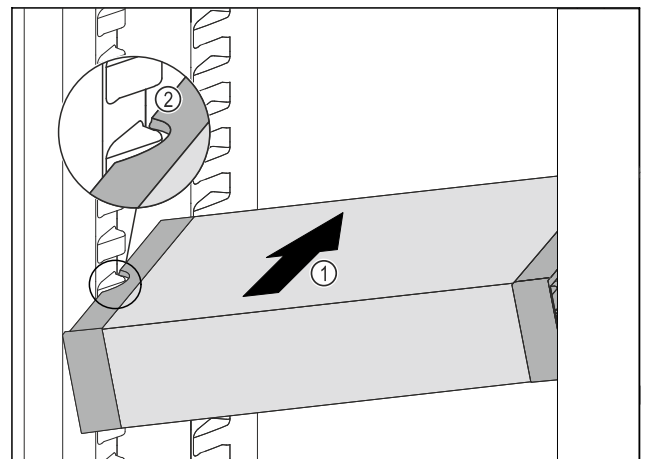

Fig. 167
- Insert the VarioSafe into the fridge section at an angle Fig. 167 (1) until the recesses in the side Fig. 167 (2) of the VarioSafe are at the level of the support rib in the fridge section.